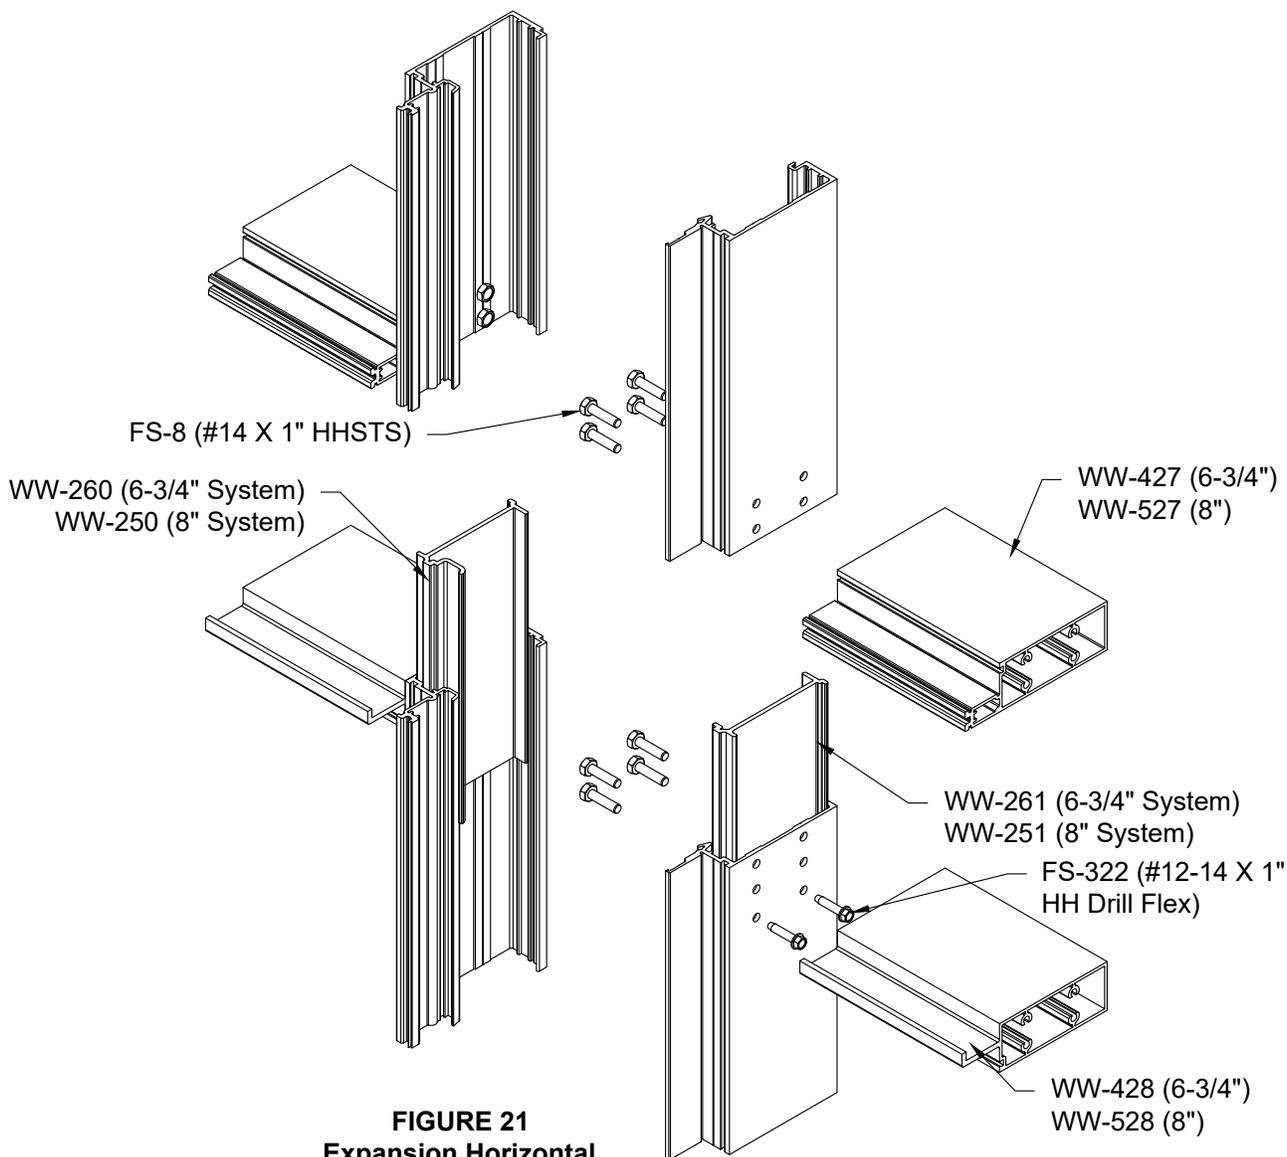

FIGURE 21
- 2.29 FIGURE 21 below shows the screw spline assembly for the dual horizontal expansion assembly. Use the Reliance™-SS Installation Manual for typical wall assembly.